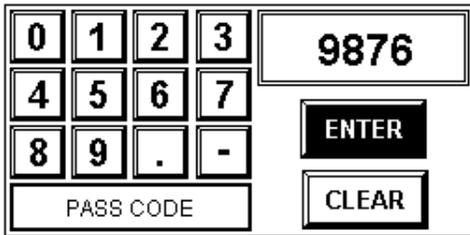

Figure ZD.4-3: Lock Out Code Entry Screen
- The *Numeric Entry Screen* is displayed, requesting the lock out (or pass) code for the particular calibration function {Figure ZD.4-3}.